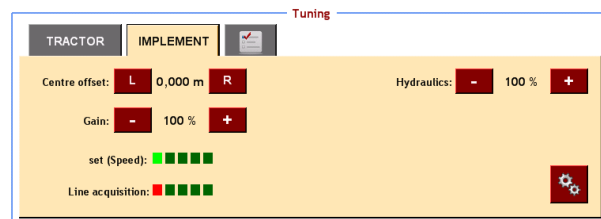

Figure 38 Adjust the center offset
5. Adjust the centre of the implement by half the measured connecting error. The centre can be adjusted with the the centre adjustment (Figure 38) in SBGuidance under Settings > Vehicle > Tuning > tab page Implement).